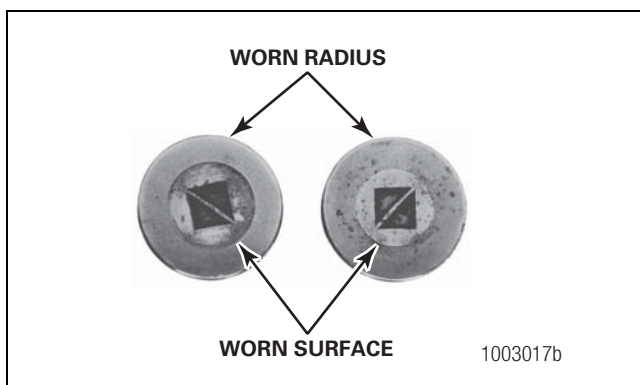

Figure 5.1
- The radius at the large diameter end of the rollers is worn to a sharp edge. Figure 5.1.